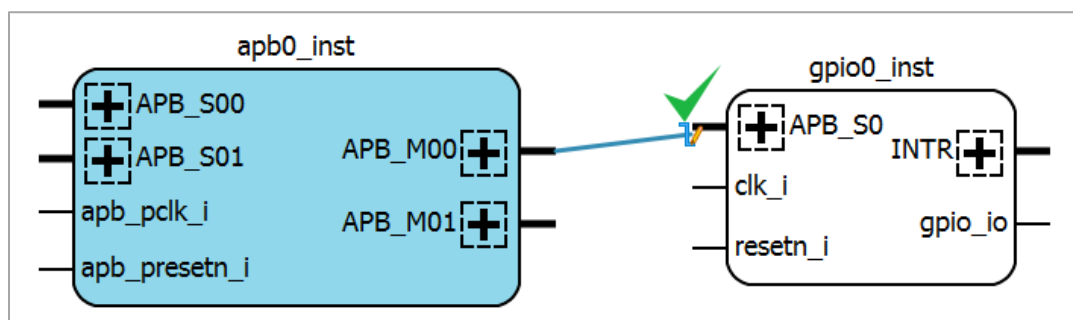
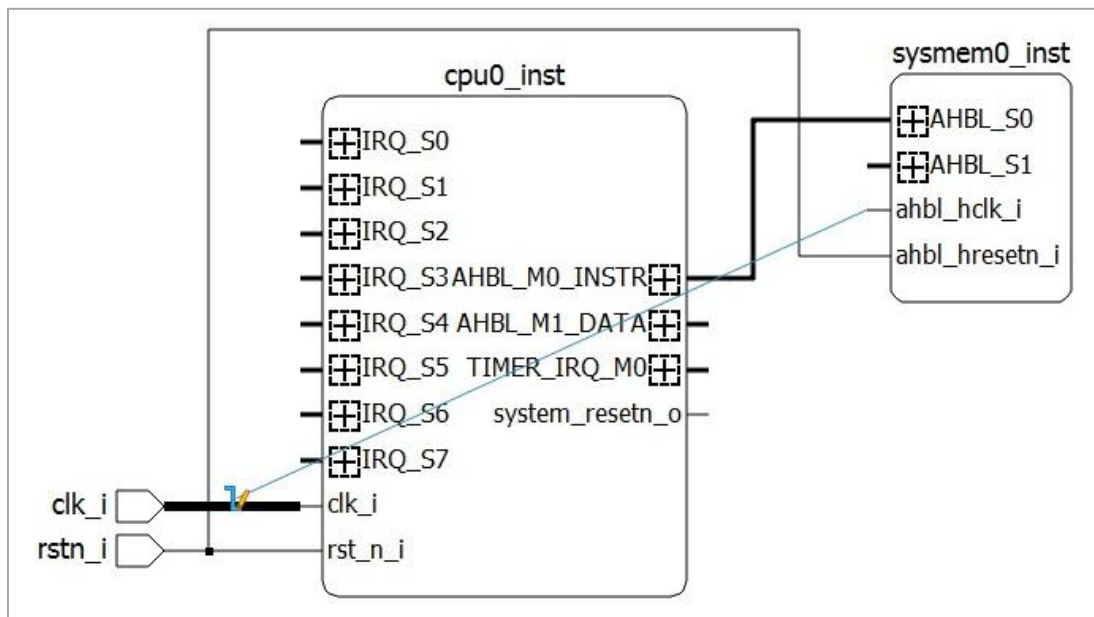

Figure 2.77. Draw a Pin or a Port
Figure 2.78. Draw Nets
1. Move the cursor to a pin or port. The cursor changes to a pencil icon . Click and hold while dragging to another pin, port, or net. An allowed pin or port shows a green checkmark when you hover over it (Figure 2.77). An allowed net becomes bold when you hover over it (Figure 2.78).